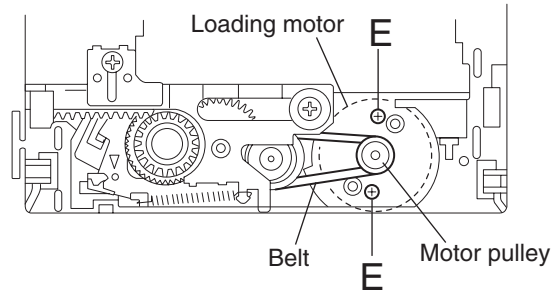

Fig.8
■ Removing the loading motor / loading motor board (See Fig.8, 9)